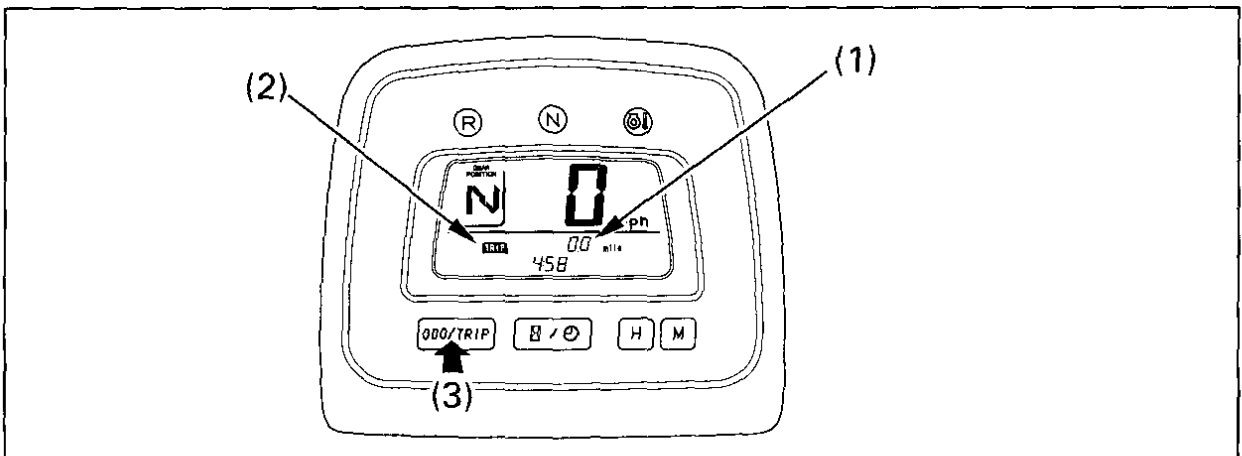

Fig. 2-18 (1) Tripmeter (3) Odometer/Tripmeter select button
When selected, the tripmeter (1) (Fig. 2-18) shows mileage per trip while the ignition is ON (I). To change the display (2) from odometer to tripmeter, press and release the Odometer/Tripmeter select button (3). To reset the tripmeter to zero, press the Odometer/Tripmeter select button and hold it in for at least two seconds.